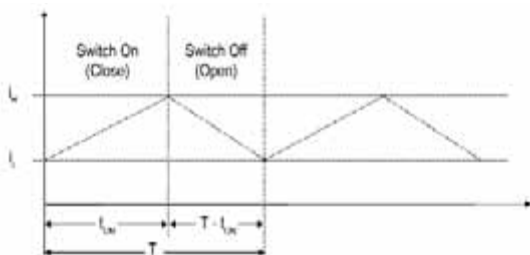

Figure 3: Fixed Frequency, Continuous Mode, Inductor-Based DC/DC Converter Timing
The operation of the majority of today's inductor-based DC/DC converters is periodic, with a period of time (T) controlled by the frequency of the clock. To simplify analysis in this article, only fixed-frequency inductor-based DC/DC converters operating in continuous current mode are considered. Inductor-based DC/DC converter operation includes two phases: switch on (close) and switch off (open). The switch-on duration (t_{ON}) is controlled by the feedback loop and determined by the amount of deviation of V_{OUT} from the preset, regulated output voltage. The switch-off duration is therefore given as $T - t_{ON}$ (see Figure 3).